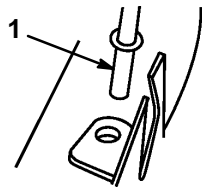

Figure 34
5. Insert the chute support rod through hole in the right side of the deck (Fig. 34).